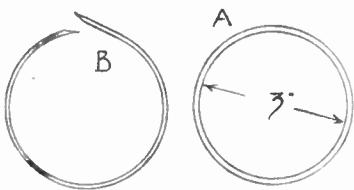

Fig. 2—The rings
The rings may be bought at a toy or sport shop. They are of rubber, about the best material for such a purpose, being silent in action. If any difficulty is experienced in getting these rings, then it is not a great matter to make a set for oneself. They can be cut from plywood, with an internal diameter as at (A) in Fig. 2, and external one of 3½ ins., not more. These are, however, rather noisy when striking the board, and a good plan to silence them is to wind a thin cord or twine round them.
If you can get a piece of thick rubber, say, about  $\frac{1}{8}$  in., then good rings can be made by cutting a strip 1½ ins. wide and long enough to make the rings, plus  $\frac{1}{8}$  in. for the joint. Scarf the joint as at (B) in Fig. 2, and cement together with rubber solution, binding it until the solution is safely set. This can be cut into six slices